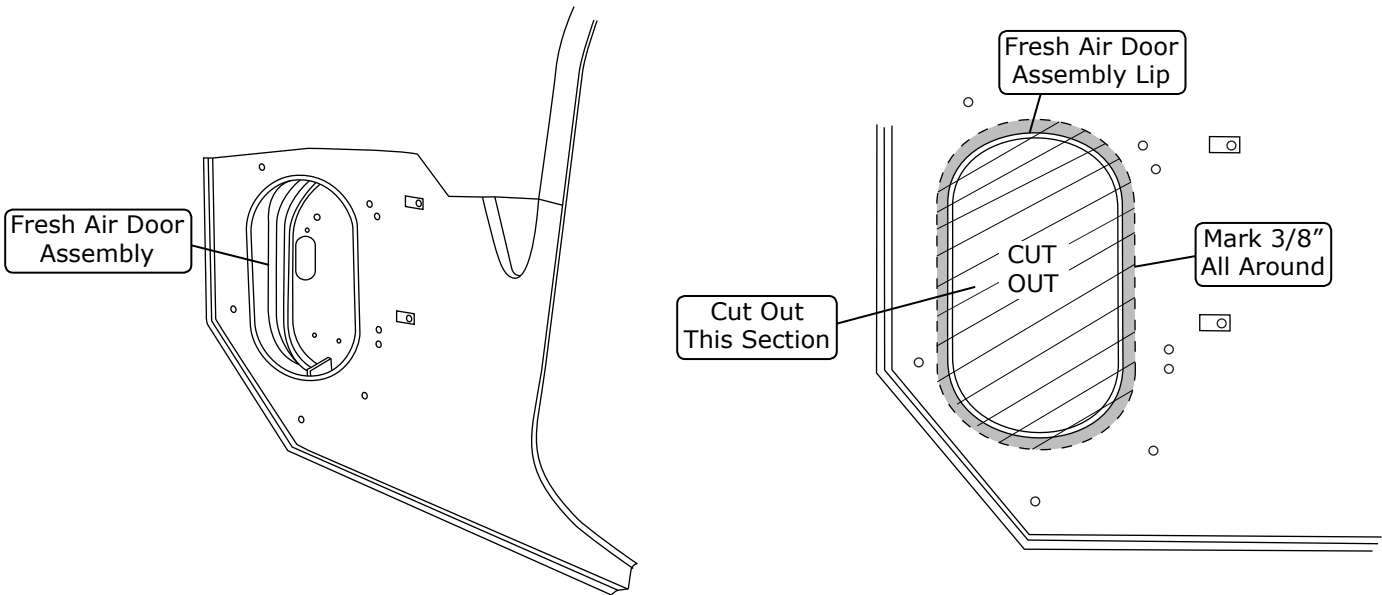

Figure 9
2. On the kick panel, mark 3/8" out from the fresh air door assembly lip around the entire perimeter of the fresh air door assembly as shown in Figure 9, below. Cut out the section as shown.